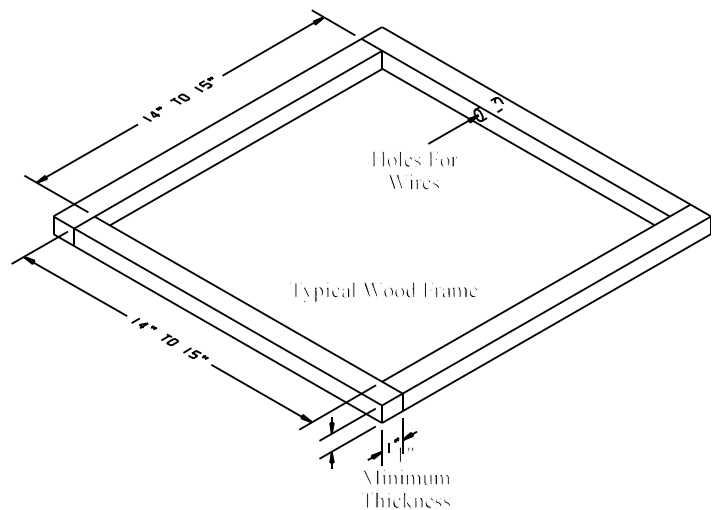

FIGURE 1
3. Examine the roof opening. If the opening is smaller than 14" x 14", the opening must be enlarged. If the opening exceeds 15" x 15", a mounting frame must be field fabricated to reduce the opening size (See Figure 1).
B. If a roof vent opening is not used, a new opening (See Figure 1) will have to be cut into the vehicle roof. A matching opening will also have to be cut into the interior vehicle ceiling. Be careful when cutting the ceiling opening. If the ceiling opening is carpeted, snagging could occur. After the opening in the roof and interior ceiling are the correct size, a framed support structure must be provided between exterior roof top and interior ceiling. The reinforced framed structure must provide the following guidelines:
RV Products 8000 series requires that the spacing from the vehicle roof top to the interior ceiling be no less than 1". A typical support frame is shown in Figure 1.